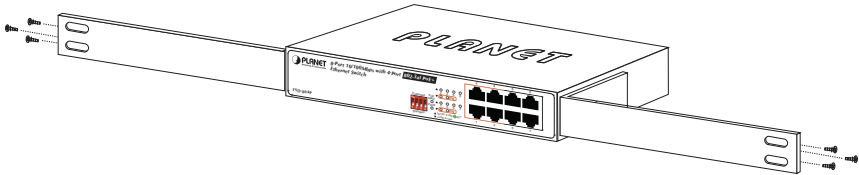

Figure 3-2: Attaching the Brackets to the FSD-804P.
Step 2: Attach a rack-mount bracket to each side of the FSD-804P with supplied screws attached to the package. Figure 3-2 shows how to attach brackets to one side of the FSD-804P.